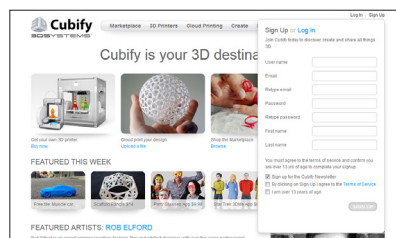

Fig. 13
- To create an account, type in [Cubify.com](https://cubify.com) in your web browser and click on Sign Up to open the registration form. If you already have an account, click on Log In and provide your User ID and Password. (Fig. 13)